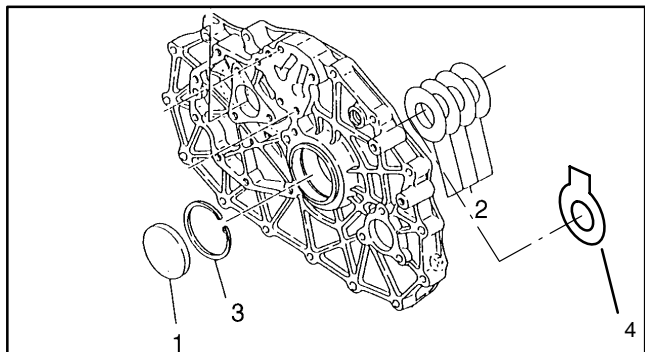

Figure 74
**IMPORTANT:** Early versions of the centerplate have either four shims (Item 2) without tabs or one thick shim (Item 4) with a tab (Fig. 74).
8. Inspect both snap ring (item 3) and shim(s) (items 2 or 4) for damage. Replace all parts if any part is cracked or broken. Shims (Item 2) must be replaced with tabbed shim (Item 4) (Fig. 74).